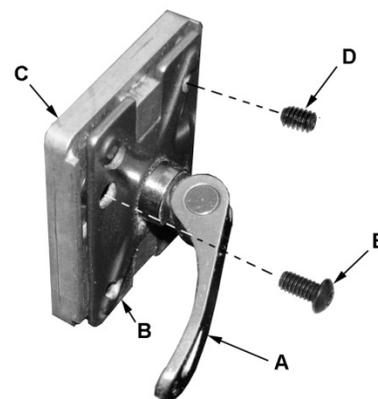

Figure 25
4. Use a 3mm hex key to make adjustments to four set screws (D, Figure 25) accessible through openings located in the corners of the clamp plate (B, Figure 25).
5. Adjust any number of setscrews required to bring riving knife in alignment with saw blade. Then reinsert riving knife, secure by tightening lever (A) and check the alignment per step 2.
Refer to Figure 25.
2. Use a 5mm hex key to loosen two socket head button screws (E, Figure 25).
**NOTE:** These screws are accessible through openings on the clamp plate (B) located diagonally on either side of the lever (A). They secure the bracket (C) to the riving knife carrier plate.